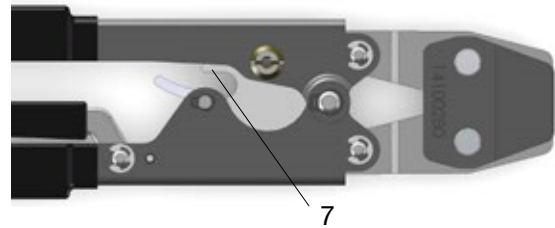

Fig. 7: Stop Point
1. Close handles of manual pincer to stop point (Fig. 7).